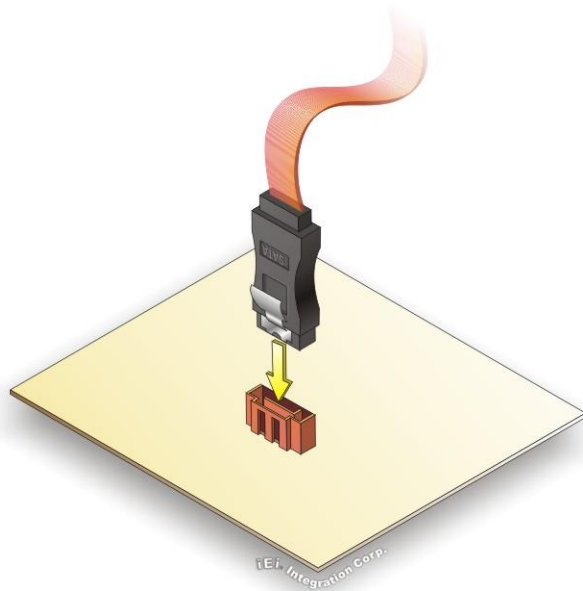

Figure 3-1: SATA Drive Cable Connection
Step 2: **Insert the cable connector.** Insert the cable connector into the on-board SATA drive connector until it clips into place. See **Figure 3-1**.